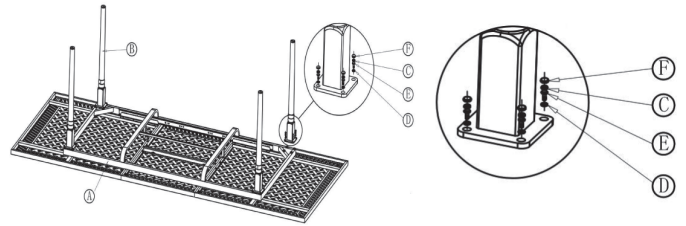

Figure 1
Step 1. Carefully place the table top frame (A) upside down on a non-abrasive surface. Assemble the table legs (B) to the table top (A) with Hex Head bolts (C), M6 Spring Washer (E) and washers (D) by Wrench (G), then cover the bolts with bolt cap (F) as show in Figure1.